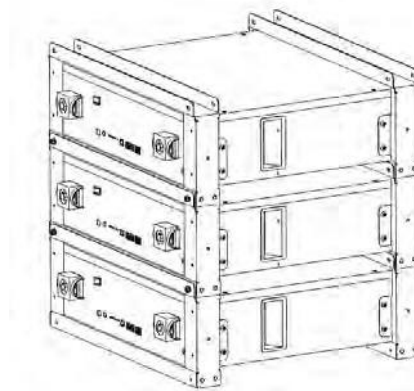

Figure 3-7
5. Stack the required number of battery and bracket combinations as described above, and fix the screws, twisting force keeps 9.8N·m. Shown as Figure3-7.